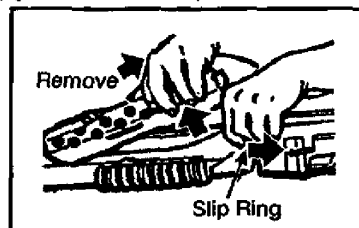

Figure 071-311-2125-3. Removing handguard
- c. Press the barrel latch and move the barrel forward to the barrel stop (figure 071-311-2125-4).